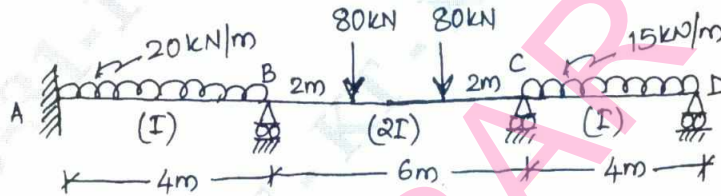

Fig.Q.1
- 1 Analyze the continuous beam shown in Fig.Q.1 by slope deflection method and draw BMD. (16 Marks)